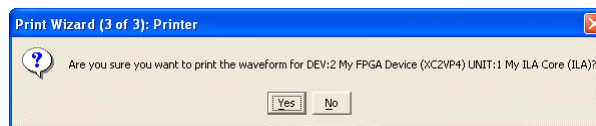

Figure 4-11: Print Wizard (3 of 3) for Sending to a Printer
3. (3 of 3) is the Print confirmation window (Figure 4-11, page 4-11)
In the Print Wizard (2 of 3) window, clicking on the Send to Printer button goes to the Print Wizard (3 of 3) Printer confirmation window (see Figure 4-11). Clicking on the **Yes** button causes the waveform printout to be sent to the printer while clicking on the **No** button returns you to the Print Wizard (2 of 3) window.